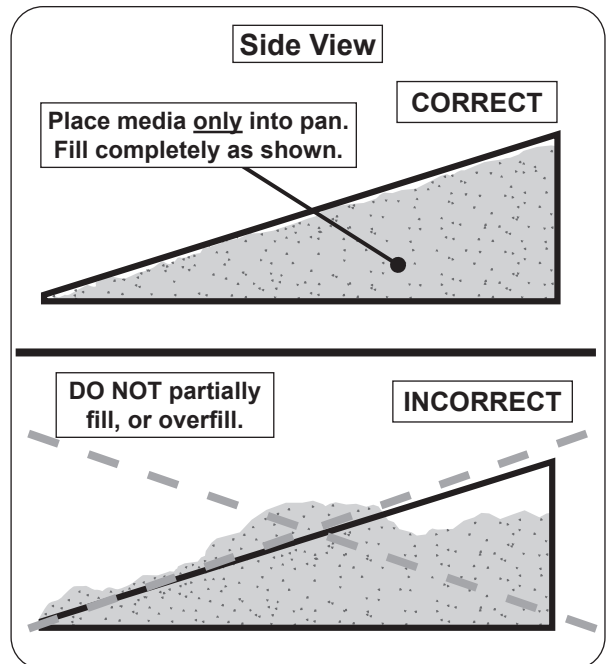

Fig. 19-2 Correct/Incorrect media placement
2. **Slope the sand/vermiculite at the same angle as the burner pan.** This is important to ensure quiet lighting and even flame distribution. See Fig. 19-2.